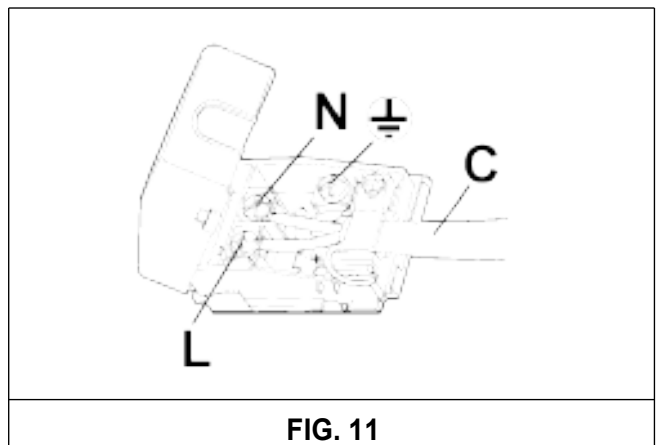

FIG. 11
- Connect the wires in compliance with the diagram in fig. 11, ensuring that the following are observed: